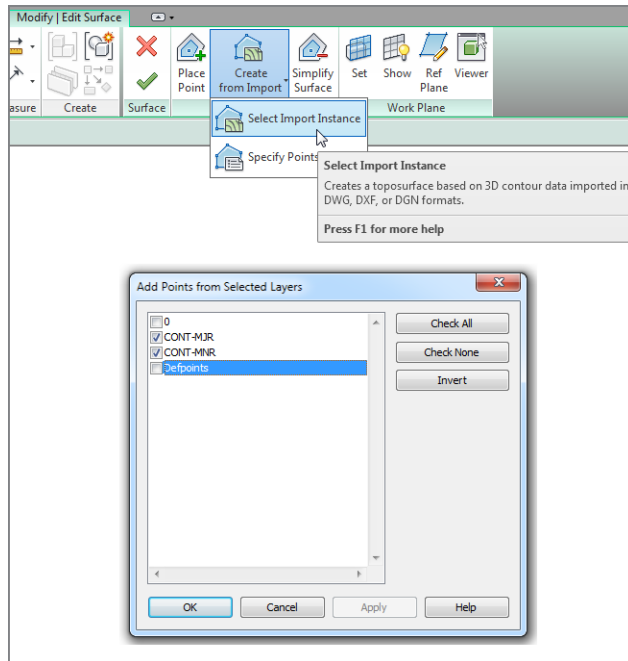

FIGURE 18.32: Adding the toposurface
2. On the Tools panel, click Create From Import > Select Import Instance, as shown in Figure 18.32.